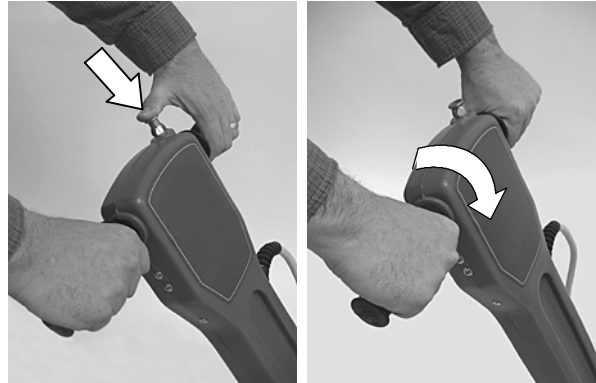

FIG. 5
3. Start machine by pressing the safety lock button and turning the twist grips forward. Release thumb from the safety lock button once machine starts (Figure 5).